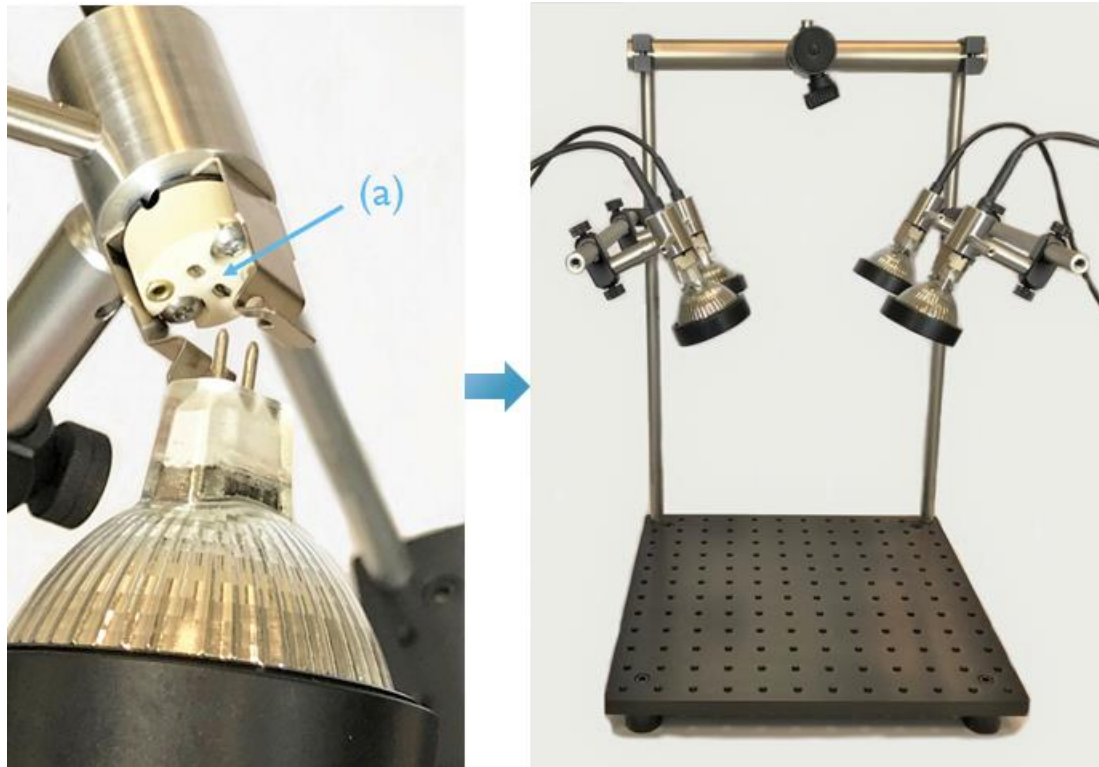

Figure 15. Mounting the lamps into the holders (Step 4.4)
Step 4.4 Mount the lamps into the holders (Figure 15)